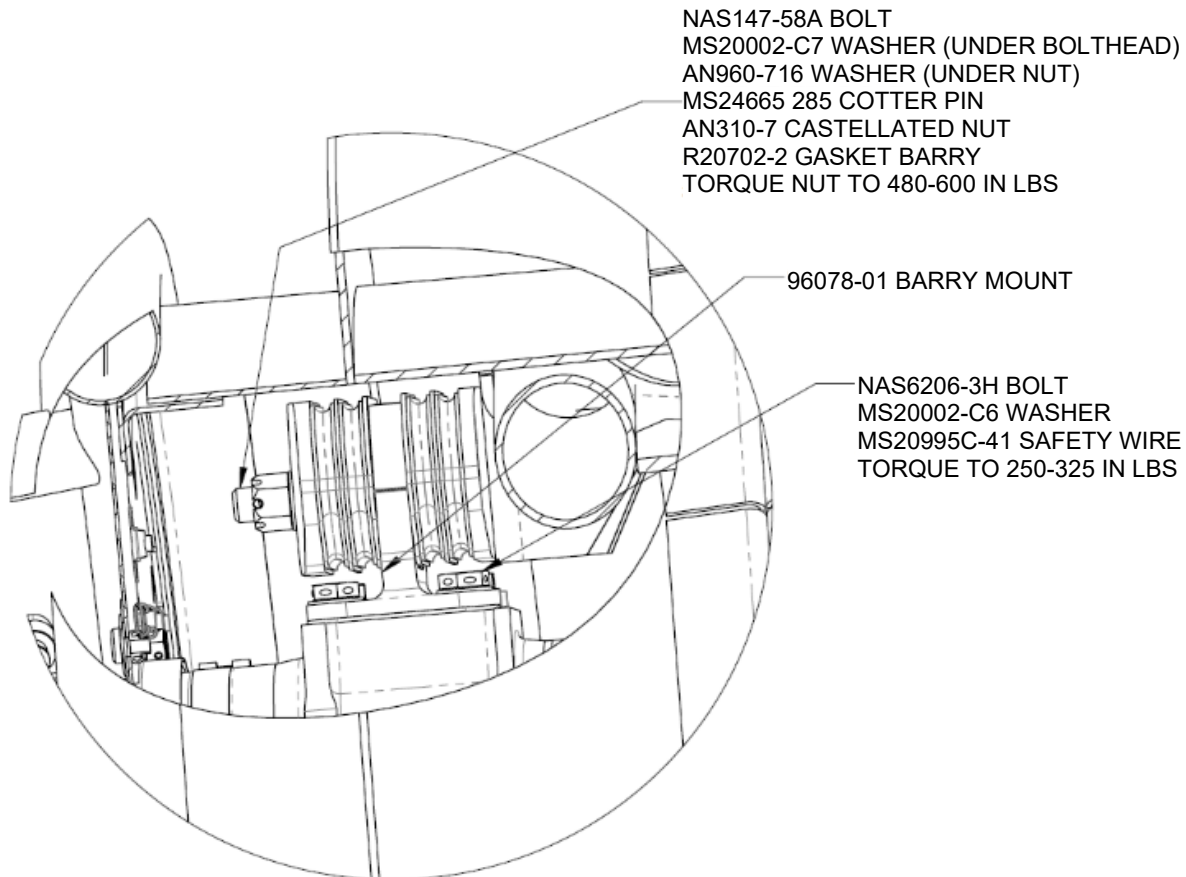

Figure 8-1
2. Reference Engine Installation section of aircraft's maintenance manual for guidance with installing engine into aircraft. (Also reference Figure 8-1)